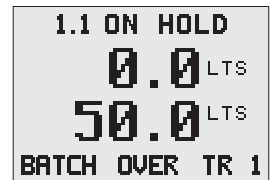

Figure 17: Batch main screen
- Display batch volume in metric (shown in Figure 17) or imperial units (L or Gal respectively).
3. Main screen should display as shown in Figure 17 if the batch **AMOUNT** was 50L with the Jackal in **HOLD** mode (solenoid activated). The display on the top line is a running total for all batches in the current series (**TRIP**).